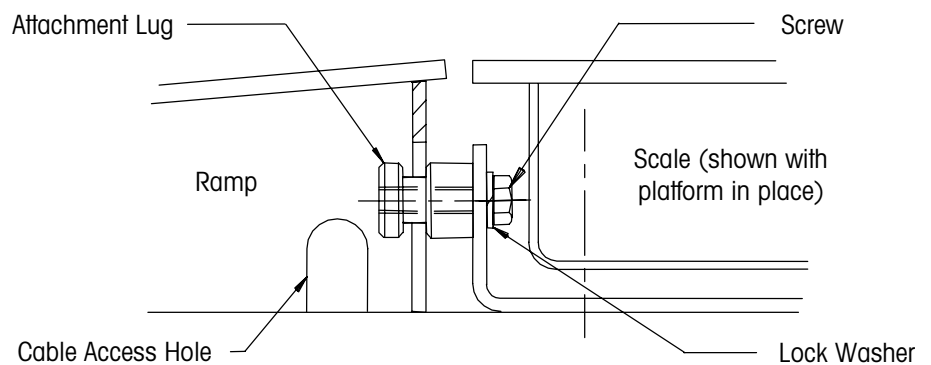

Figure 4-2: Ramp Attachment Detail
4. The front plate of the ramp has two slots that provide a friction type fit when slid over the attachment lugs. Lift the ramp and align the front plate slots with the lugs. Lower the ramp until the slots are fully engaged in the grooves on the lugs (see Figure 4-2).